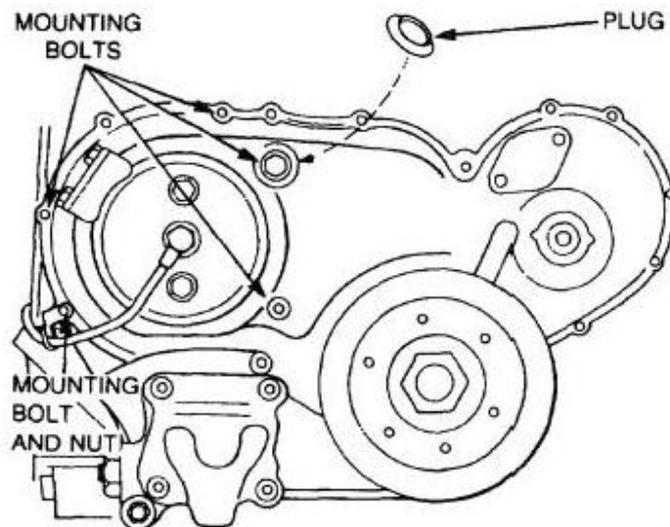

Figure 14 Removal of the Injection Pump
- k. Remove the plug from the timing cover (Figure 14) and remove the seven bolts (one is accessed from the rear of the timing case below the injection pump) securing the injection pump to the timing case.